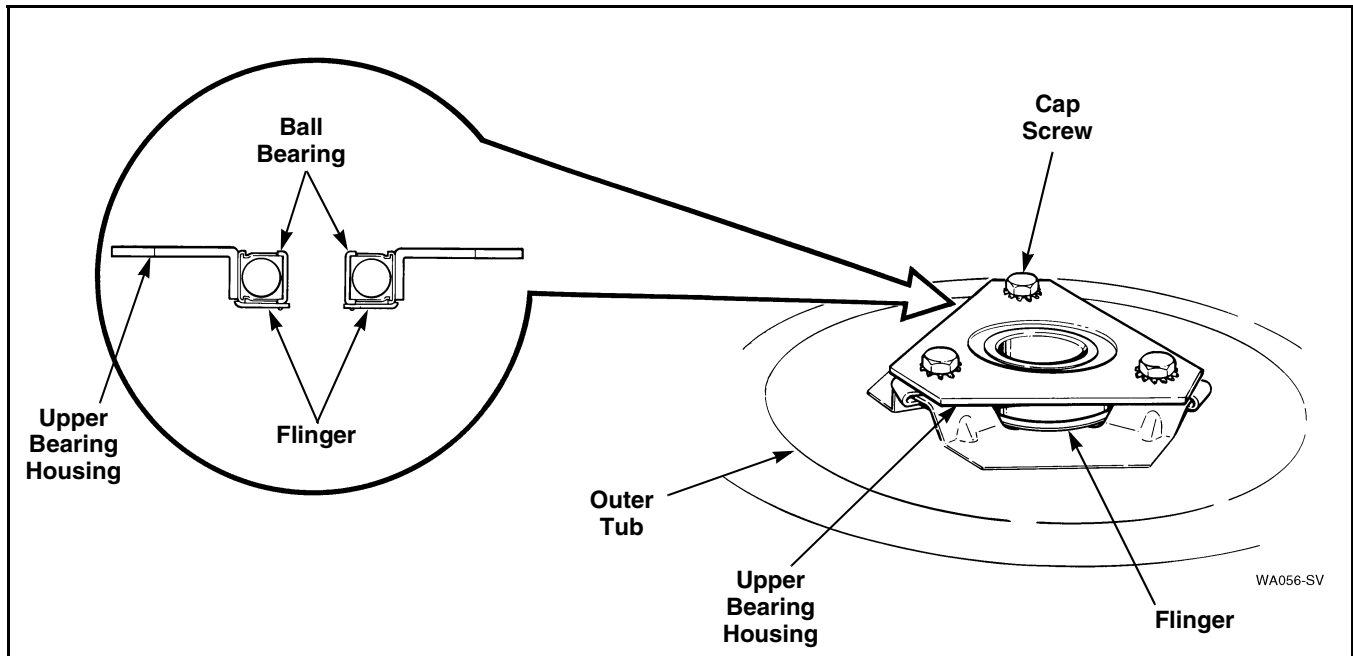

Figure 39
- Remove three screws holding upper bearing and housing to bottom of outer tub. Refer to *Figure 39*.
NOTE: Replace bearing and housing as an assembly, and make sure flinger is properly positioned between outer tub and bearing assembly. Refer to *Figure 39*.